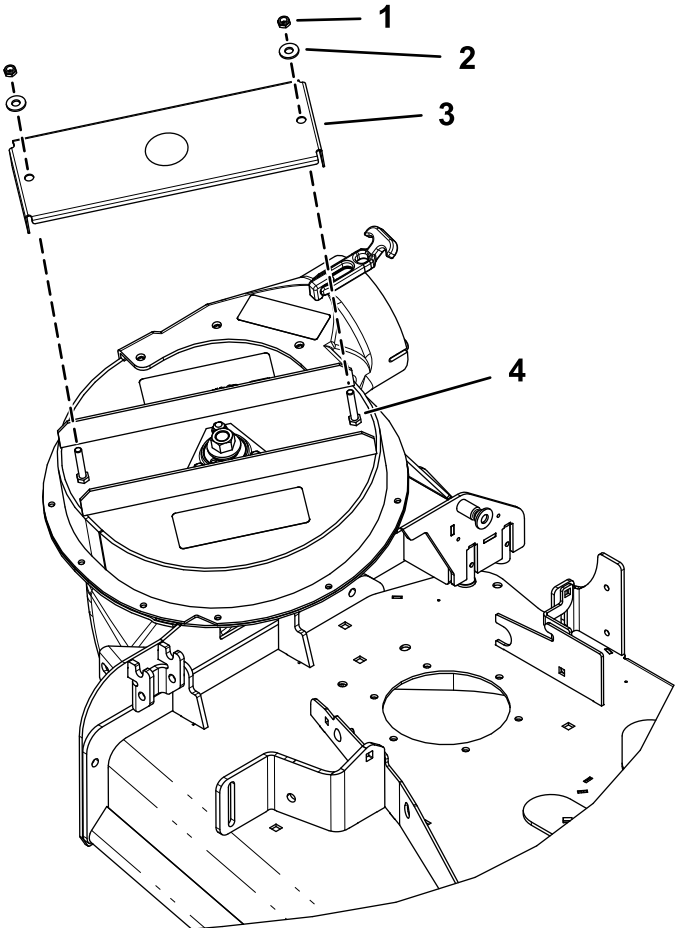

Figure 5
1. Remove the 2 nuts and 2 washers that secure the OEM shaft cover to the blower assembly (Figure 5).
2. Remove and discard the OEM shaft cover (Figure 5).